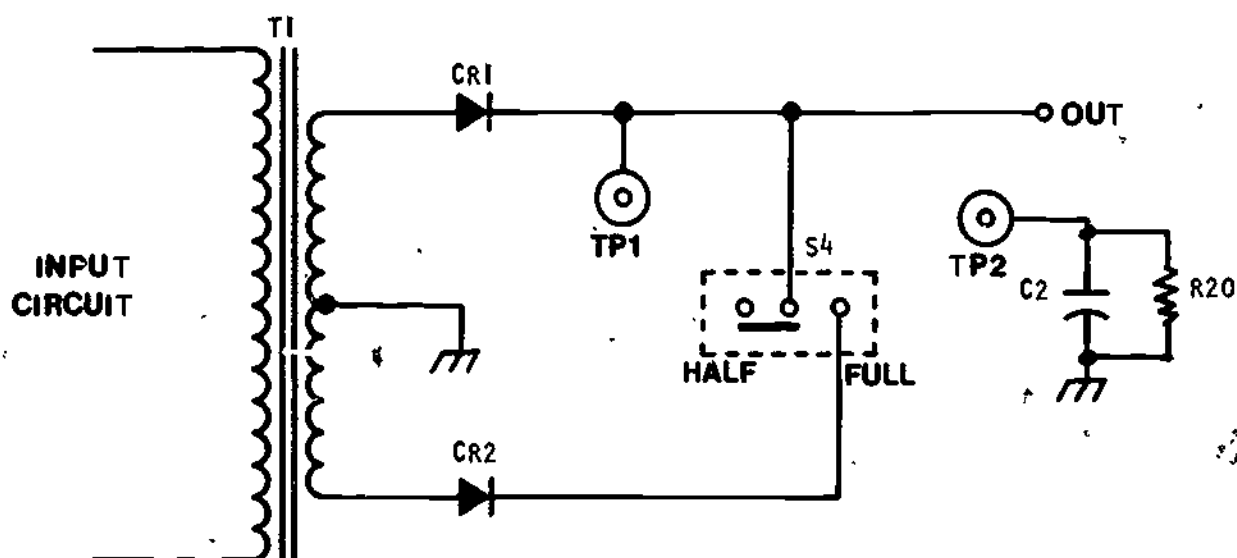

Figure 1
4. The output of the rectifier circuit is from TP1 on circuit board PC201-1 (Half - Fullwave Rectifier). Switch S4 gives us the capability of examining the output from either a half wave or a full wave rectifier. Refer to Figure 1.